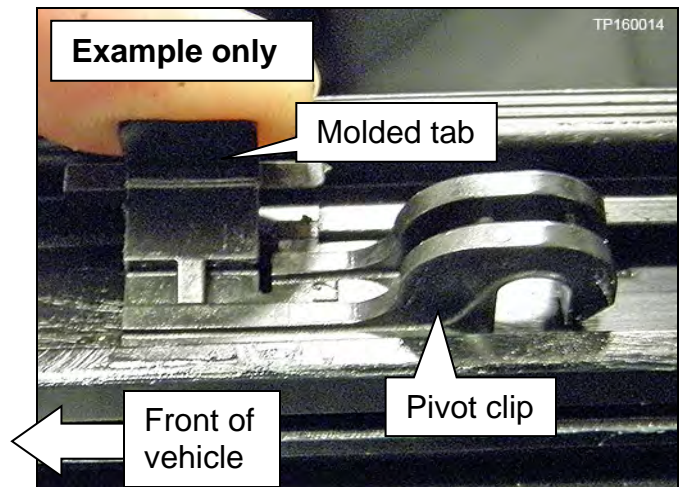

Figure 19
- Figure 19 shows a pivot clip with the wind deflector arm removed so that lifting the molded tab can be seen.